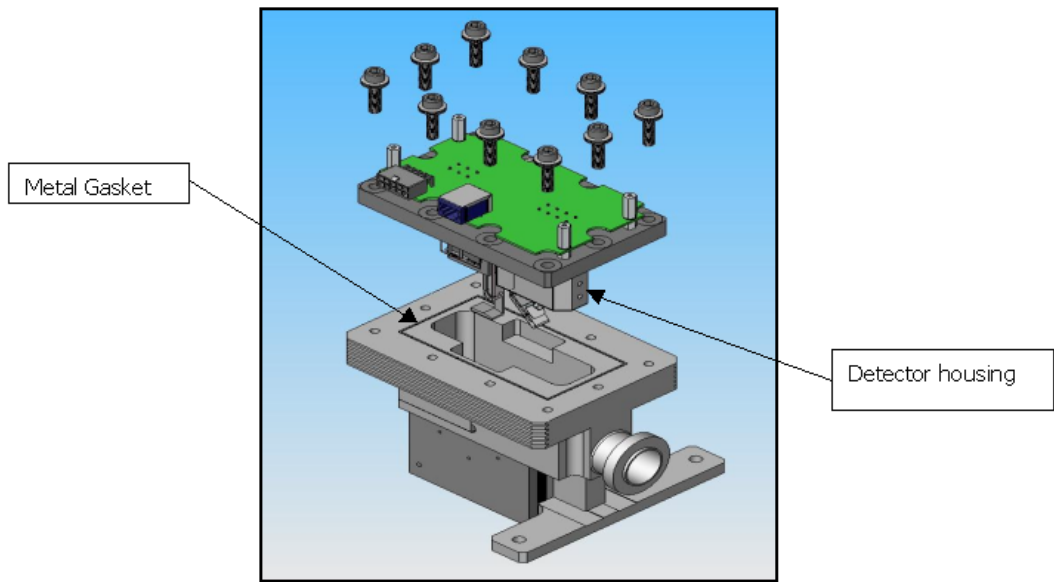

Figure 6: Spectrometer Alignment
16.Guid the spectrometer header into pocket with the detector housing closest to the inlet (Figure 6: Spectrometer Alignment).